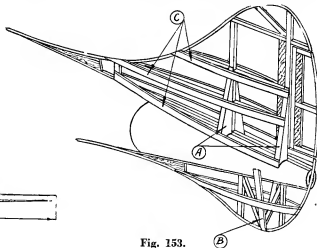

Fig. 153.
The rudder may now be finished. I feel that the drawing in Fig. 153 will explain the process better than many words. This illustration is an isometric drawing of the finished rudder frame, and I have omitted the stringers of the fuselage for the sake of clearness. As may be seen, the two uprights are supported on either side by small buttresses of balsa (A); while the underslung portion is strengthened by the addition of two small lengths of 3/32 in. \times 1/16 in. balsa, which are cemented from stringers Nos. 6 and 11 down to the lower framework, in the form of a "V" (B). A symmetrical section is given to the rudder by the addition of strips of 1/32 in. balsa (C) cemented on as shown.